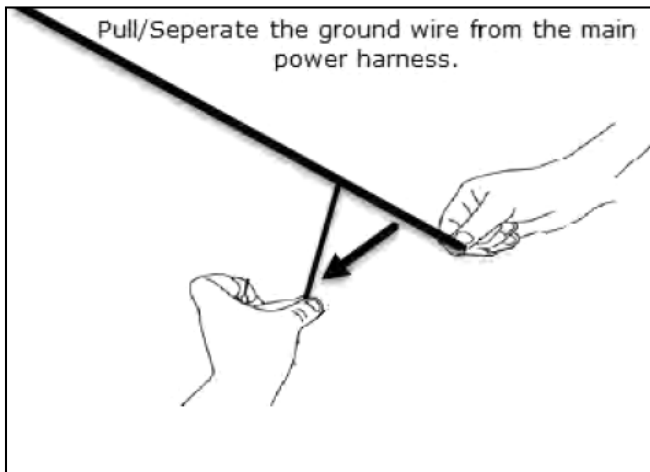

Figure 10
10. Pull/Separate the ground wire (Black/Orange) from the mirror main power harness approximately 6 inches. See Figure 10.